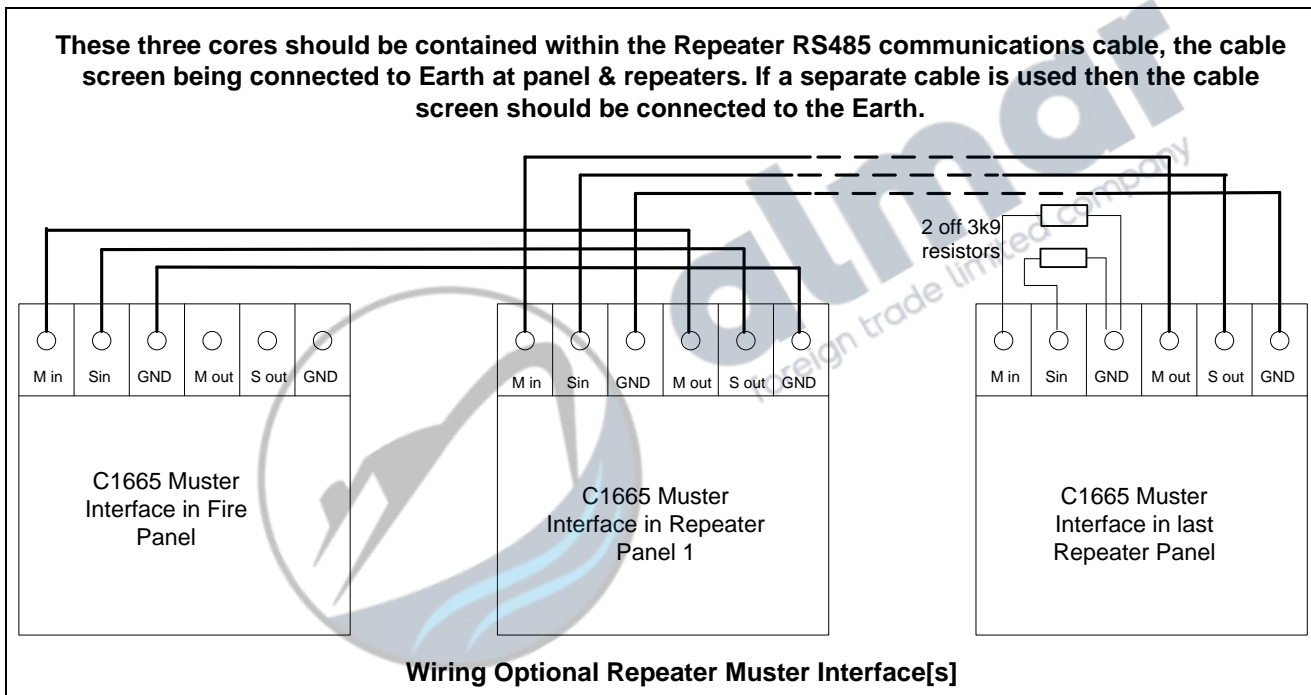

Figure 5- Muster Interface Wiring Diagram
5. Connect the field cable as shown in Figure 5.
6. Connect 2 off 3k9 monitoring resistors to the C1665 in the last repeater as shown in Figure 5. [The resistors are supplied in the Muster Interface fixing kit].